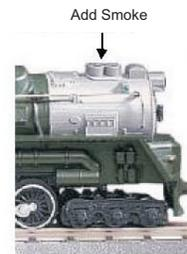

Figure 4. Add Smoke Fluid
1. You should prime the operating smoke unit with smoke fluid before operating. Add 15-20 drops of smoke fluid through the smokestack, then gently blow into the stack to eliminate any air bubbles in the fluid. See Fig. 4 on pg. 12.
- When preparing to run this engine, add 15-20 drops of smoke fluid through the smokestack (see Fig. 4). We recommend M.T.H. ProtoSmoke, Seuthe, LGB, or LVTS fluids (a small pipette of ProtoSmoke fluid is included). Do not overfill the unit or the fluid may leak out and coat the interior engine components.